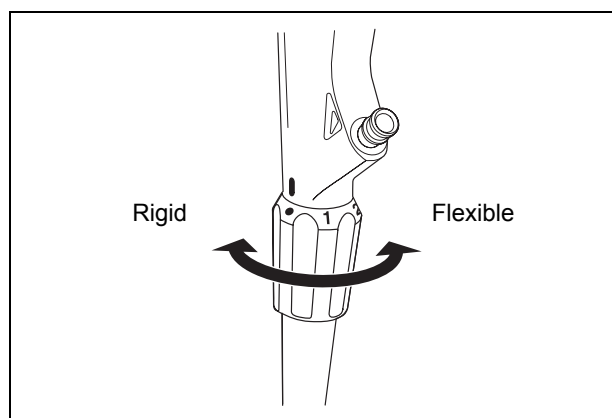

Figure 4.4
1. Before inserting or withdrawing the endoscope, set the insertion tube to an appropriate level of flexibility by turning the flexibility adjustment ring as required (see Figure 4.4).